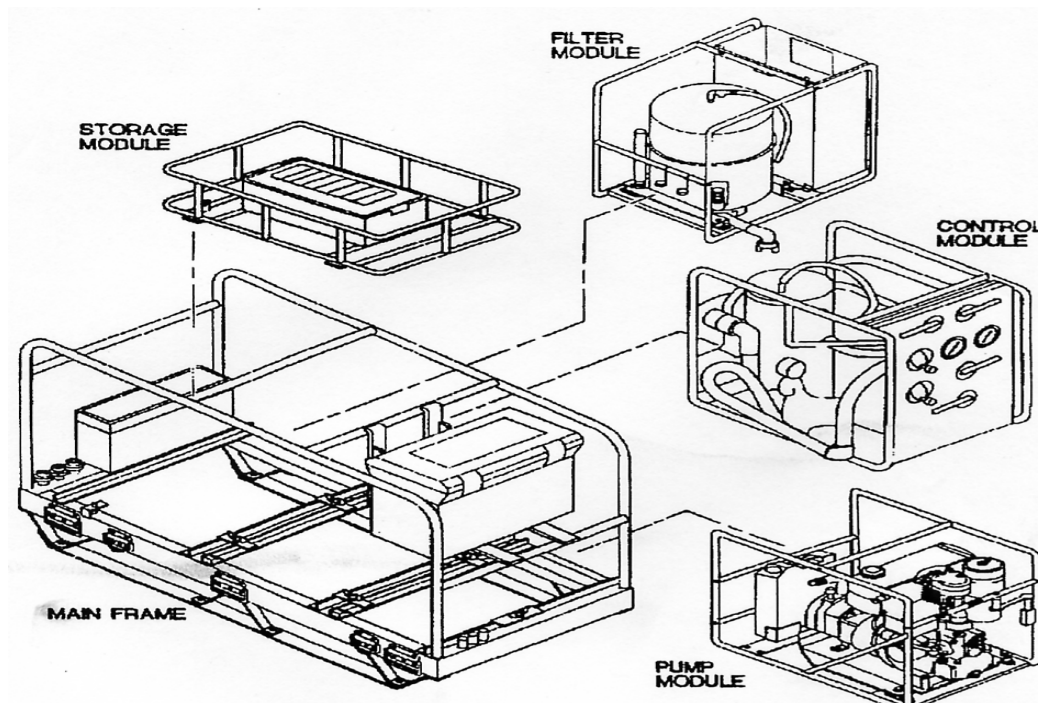

Fig 1-1
a. **Main Frame.** The main frame holds four modules, the pump module, control module, hose storage module, and the filter module (See fig 1-1). Additionally the main frame also consists of storage containers for the tools and equipment required to run the unit (SL-3). These containers are located in the Hose Storage module and on the main frame. This equipment is as follows:
(1) 1- Tool kit. This tool kit will contain all the tools you need to perform maintenance and conduct normal operation of the 3,000 LMT.
(2) Three 10'x 2" suction hoses, three 25'x 2" suction hoses, one 50'x 2" pump discharge hose, one 50'x 2" waste hose, and 50'x 1-1/2" fresh water hose, and a 50'x 1-1/2" fire hose with nozzle. This can be used in many of the applications mentioned before.
(3) One 2,000 ml D.E. measuring container.
(4) One chlorine measuring container.
(5) One chlorine test kit. This is a common pool type chlorine test kit.
(6) One suction strainer. There is also a stand off ring to keep the strainer off of the bottom of a shallow water source. A buoy is also provided to be used in conjunction with the suction hose. A collapsible priming bucket is provided for use with the 160 GPM. A lifting sling (for helicopter lift).